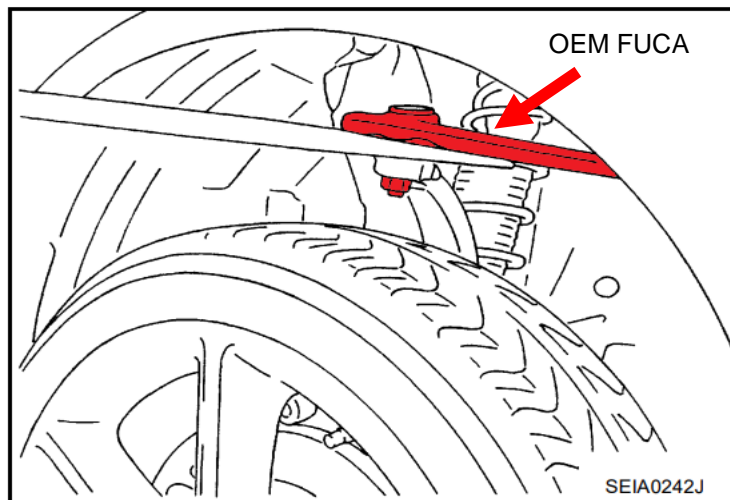

Figure 1
6. Locate the OEM Front Upper Control Arms (FUCA). They are located at the front left and right ends of the vehicle, between the chassis and front axle. See *Figure 1* below.